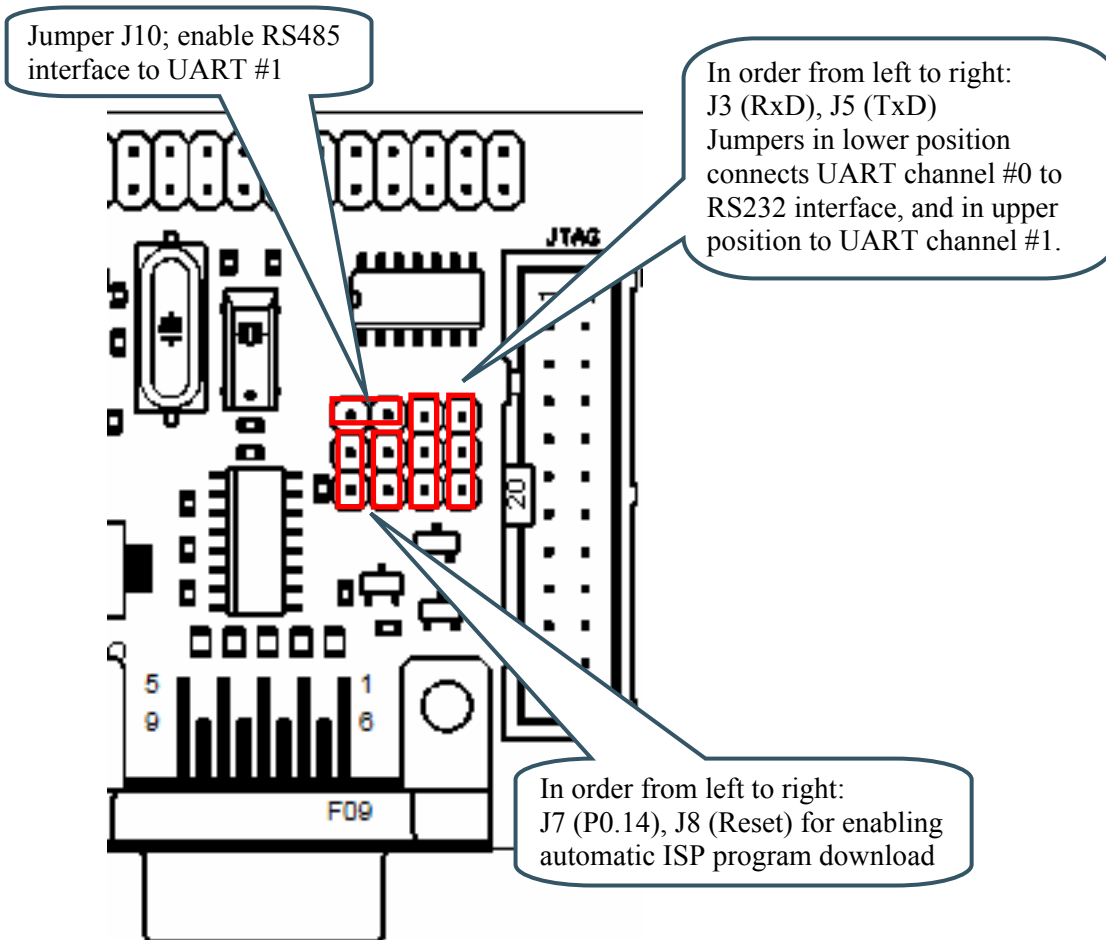

Figure 8 – 100/10M Ethernet LPC2138 QuickStart Board Jumpers
- An ESD/EMI protected RS232 serial channel. Either UART channel #0 or channel #1 can be connected to the RS232 interface signals. This is controlled by jumpers J3 and J5 (see *Figure 8* for more information about jumper setting). The RS232 signals are connected to the female 9-pol DSUB connector and the expansion connector.
program shall be started, or not. A low signal after reset enters the bootloader mode. The RTS/DTR signals can be disconnected from the microcontroller via two links / jumpers on the board. See *Figure 8* below for details.